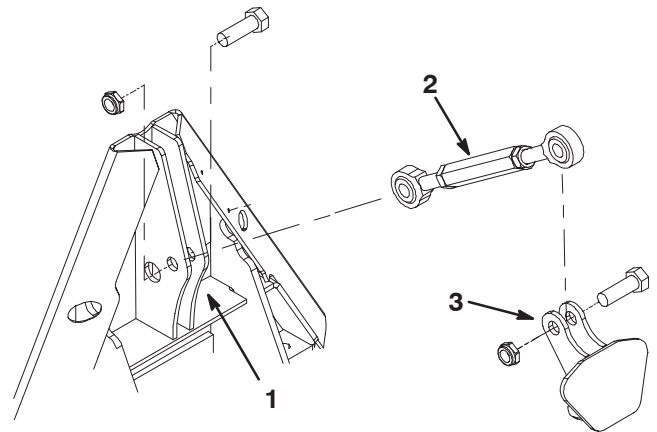

Figure 11
- 13.** Secure one of the threaded link rod ends to the lift adapter with a 1/2 x 1-1/2 inch bolt and 1/2 inch nut (Fig. 11).
- 14.** Raise the lift adapter and secure the other rod end to the link mount with a 1/2 x 1-1/2 inch bolt and 1/2 inch nut (Fig. 11).